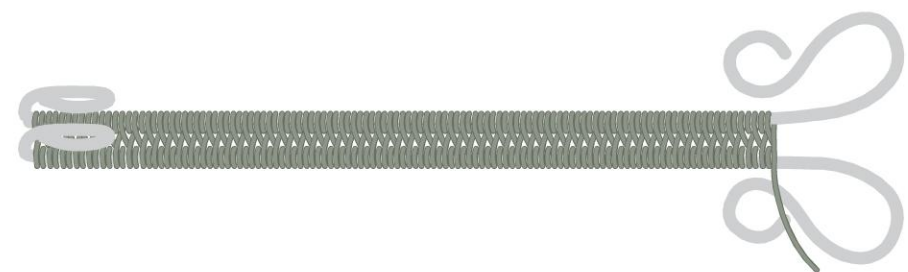

figure 4
- 8 Continue weaving, pushing the weave down the wires as necessary, until the frame wires are woven from the open spirals made in Steps 5–6 to the base of the loops made in Steps 2–4 (Figure 4). Cut the beginning weaving wire tail.